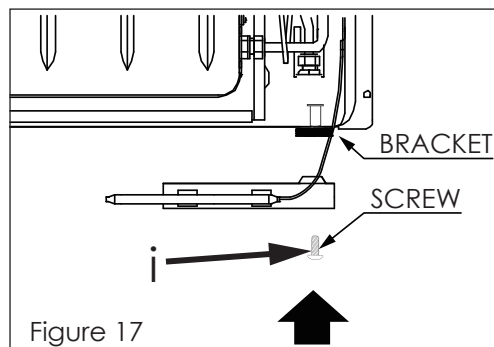

Figure 17
2. Place the thermostat sensor under the right bottom of the bracket and attach it with the provided medium screw (i) that fixes the appliance to the bracket as shown in figures 17 and 18.